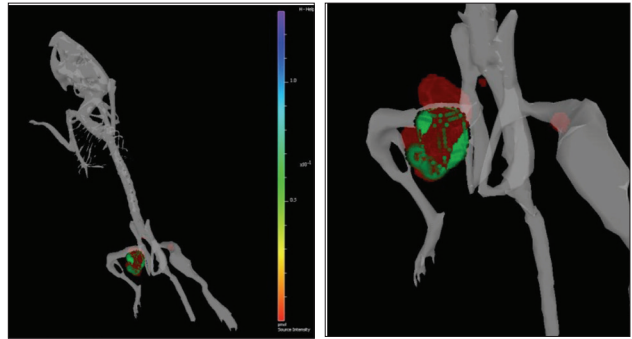

Figure 11. DLIT and FLIT reconstructions overlaid of implanted P3CM cells expressing luciferase (GREEN) and targeted with a 750 nm fluorescent agent (RED).
- Determine geometry and quantify the depth and intensity and of fluorescent sources in 3D space using FLIT (Fluorescent Imaging Tomography) or bioluminescent sources using DLIT (Diffused Luminescent Imaging Tomography) (Figure 11)